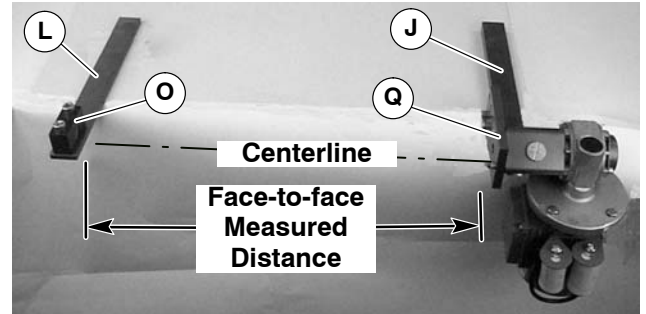

Figure 7
NOTE: Mounting holes are not provided. Ensure that gearmotor assembly (J of Figure 7) and bearing support assembly (L) are parallel and center-line of coupling matches center-line of bearing block (O).
- Attach gearmotor assembly (J of Figure 7) and bearing support assembly (L) to mounting surface.